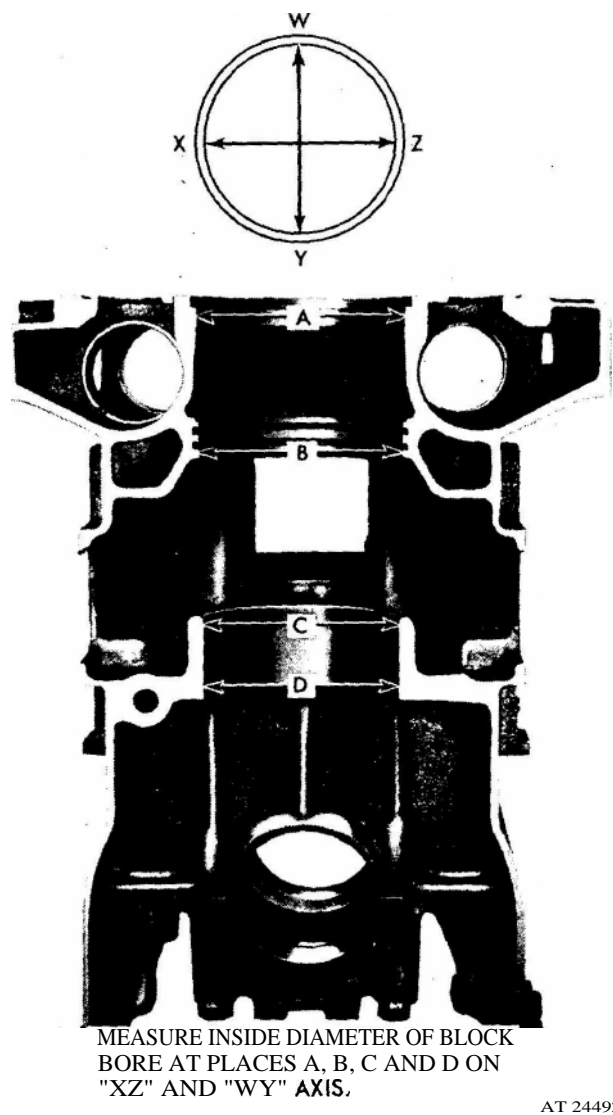

Figure 9. Block bore measurement diagram.
b. Measure each block bore, at the positions indicated in figure 9, on axes 90° apart. Use cylinder bore gage J 5347, which has a dial indicator calibrated in .0001" increments, and set the gage to zero with dial bore gage setting fixture J 23059. If the diameter does not exceed 4.5235" at position "A", 4.4900" at position "B" (and a sealing problem hasn't occurred), or 4.3595" at positions "C" and "D", then the block may be reused. Also, the taper and out-of-roundness must not exceed .0015".